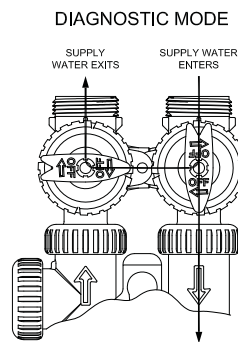

figure 3
**3. Diagnostic Position:** The inlet handle points in the direction of flow and the outlet handle points to the center of bypass valve, system water pressure is allowed to the control valve and the plumbing system while not allowing water to exit from the control valve to the plumbing. (see figure 3)
If using optional bypass **SLOWLY** turn bypass valve to **DIAGNOSTIC** position (See figure 3 on page 4) or slowly open inlet valve to allow water to slowly enter the Conditioner.